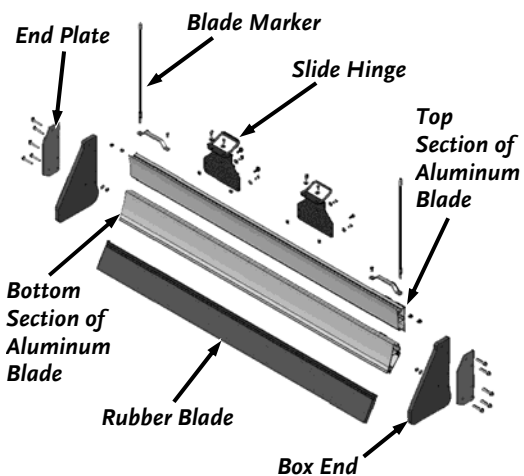

Figure 7
- Refer to exploded view components for plow blade parts before performing next step (**Figure 7**).